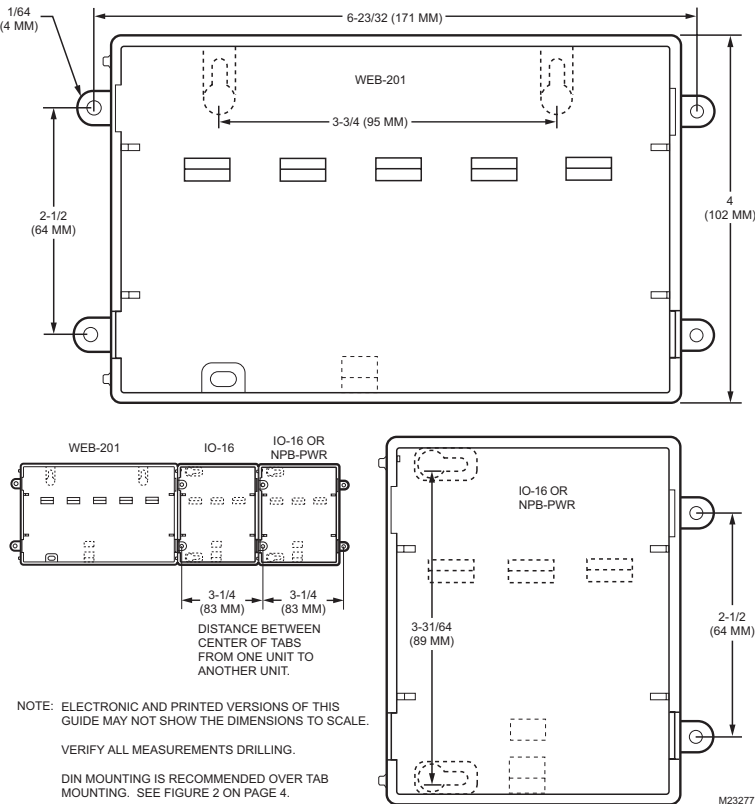

Fig. 1. Tab mounting dimensions in inches (mm).
- If DIN rail mounting is impractical, use screws in mounting tabs on the WEB-201 then on the module. Mounting tab dimensions are shown in Fig. 1.